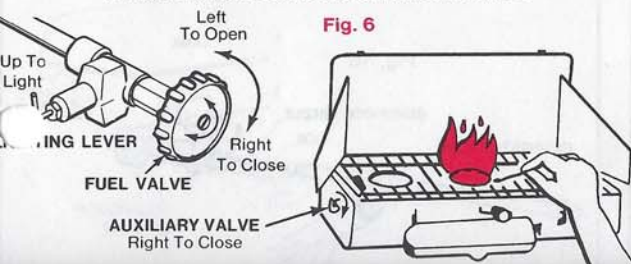

Fig. 6
1. Close AUXILIARY VALVE(s). (fig. 6)
2. Turn LIGHTING LEVER to "Up" position. (fig. 6)